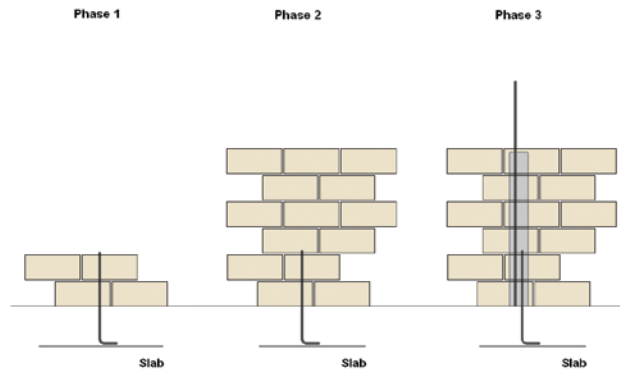

Figure 2: Sequential core filling with reinforcing
- designing walls to provide additional stability during the construction phase, such as adding sequential core filling with reinforcing or wall stiffeners (see figures 2 and 3)